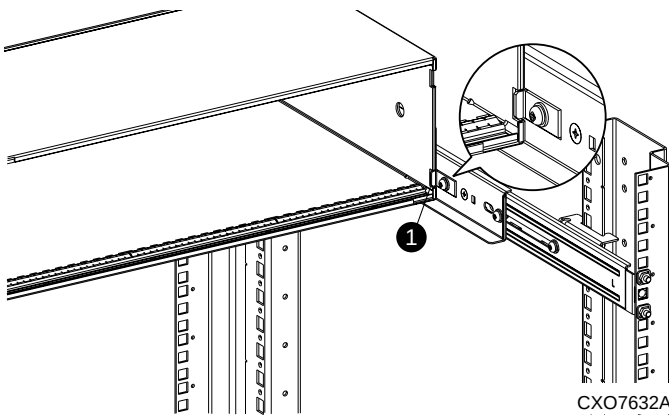

Figure 10: Enclosure notch and stop bracket
- Locate the left side notch ❶ on the enclosure at the rear. See Figure 10.